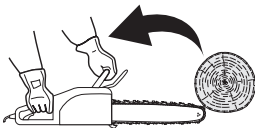

Fig. 23
In some cases, contact with the tip of the guide bar (9) may cause a lightning-fast reverse reaction, kicking the guide bar up and back toward the operator (Figs. 23, 24, 25).